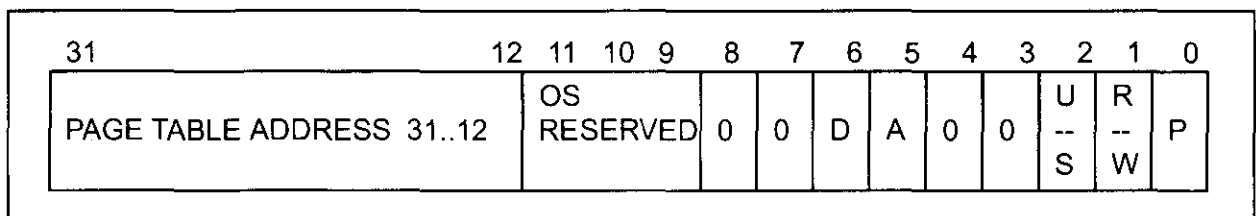

Figure 21-11. Page Directory Entry (Points to Page Table)
In paging, the linear address is divided into three parts. The upper 10 bits (A31 - A22) are used for an entry into what is called a *page directory*. There is a 32-bit register, CR3, inside the 386 that holds the physical base address of the page directory. Since the upper 10 bits of the linear address points to the entry in the page table directory, there can be 1024 page directories ( $2^{10} = 1024$ ). Each entry in the page directory is 4 bytes of page table descriptor. Of the 4 bytes of each page table descriptor, the upper 20 bits are used to point to another table, where the physical address of the 4K page frame is held. How is the correct entry in the table located? A21 - A11 (10 bits total) of the linear address are used to point to one of the page table entries. Again, each entry in this second table has 4 bytes. The upper 20 bits are for A31 - A12 of the physical address of where data is located. The lower 12 bits of the physical address are the lower 12 bits of the linear address. See Figures 21-11 and 21-12. In other words, only the lower 12 bits of the linear address match the lower 12 bits of the physical location in RAM or ROM where data is located, and the upper 20 bits of the linear address must go through two levels of translation tables to get the actual physical address of the beginning page where the data is held. This seems like a very long and inefficient process, and it is. This is the reason for the TLB (translation lookaside buffer). The TLB inside the 386 holds the list of the most recently (commonly) used physical addresses of the page frames. When the CPU wants to access a piece of information (data or code) by providing the linear address, it first compares the 20-bit upper address with the TLB to see if the table entry for the desired page is already inside the CPU. This results in two possibilities: (1) If it matches, it picks the 20-bit physical address of the page and combines it with the lower 12 bits of the linear address to make a 32-bit physical address to put on the 32 address pins to fetch the data (or code); (2) if it does not match, the CPU must fetch into TLB the page table entry from memory.